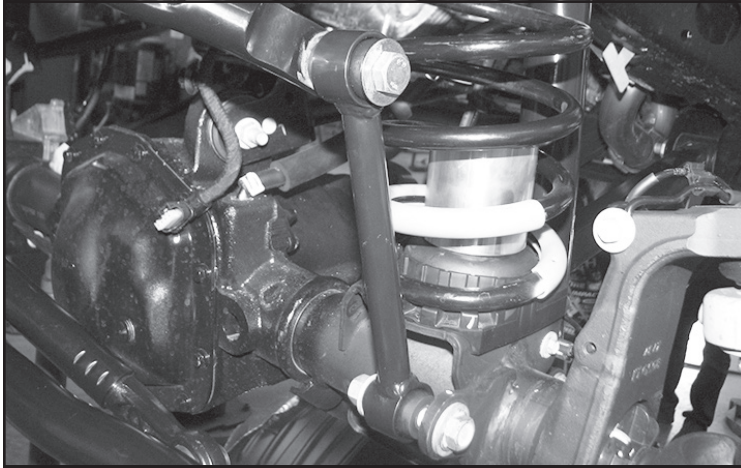

FIGURE 20 - STEP 20
20. Install FT50048 (Bushings) and FT404739 (Sleeves) into FT50261BK (Sway bar links). Then, install the links to the axle mount and sway bar using the supplied M12 x 70mm or M14 (2024 Models) hardware for the upper location and the factory for the lower. Torque to 65 ft-lbs. **SEE FIGURE 20**